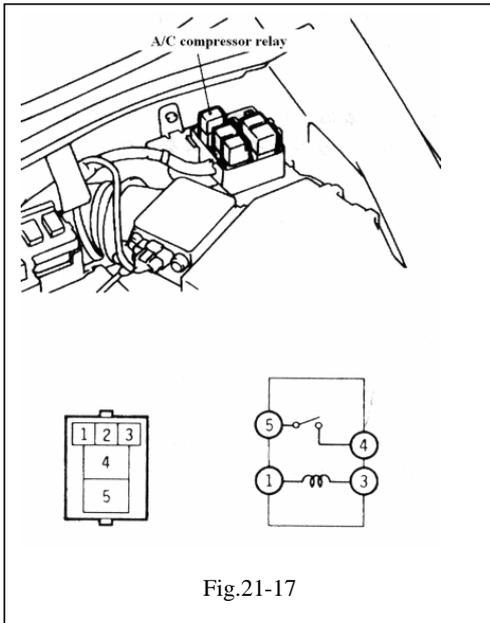

Fig.21-17
13. A/C COMPRESSOR RELAY CONTINUITY CHECK(See Fig21-17, Table 21-11)